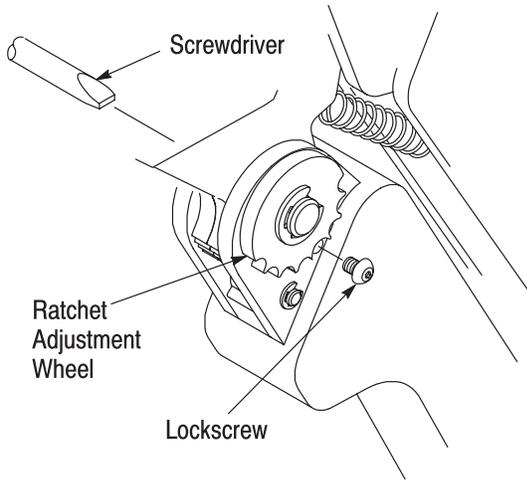

Figure 4
**5. RATCHET ADJUSTMENT** (Figure 4)